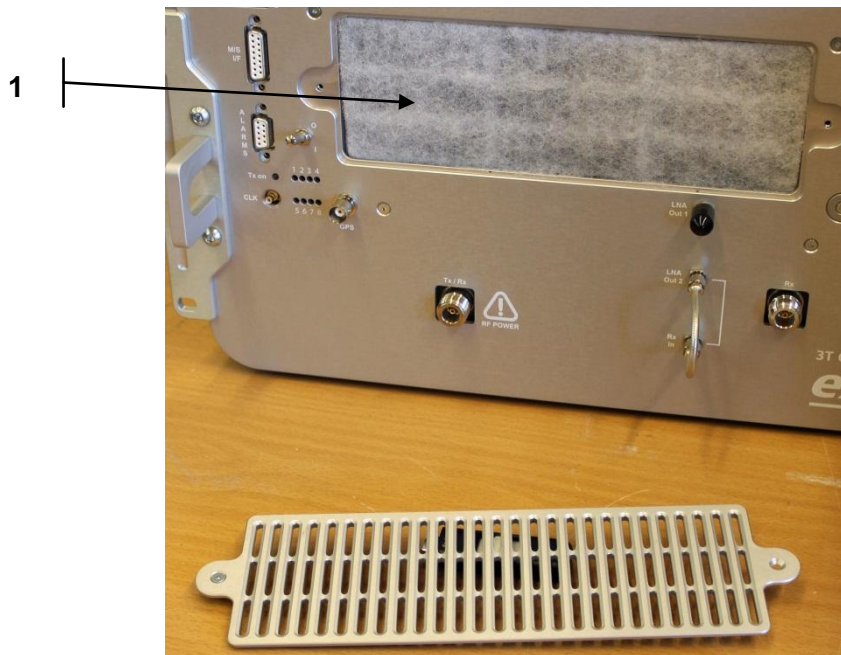

Fig. 7-6: Removing the Transceiver Ventilation Grid
4. Remove the transceiver ventilation grid (see Fig. 7-6).